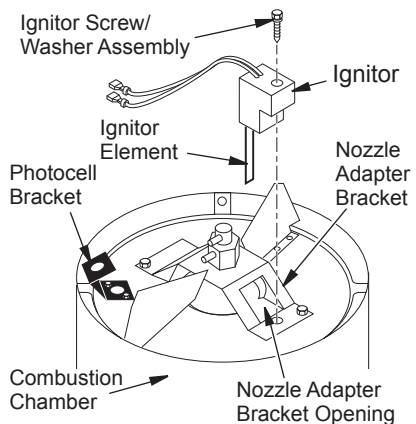

Figure 22 - Ignitor Replacement
6. Remove combustion chamber. Stand combustion chamber on end with nozzle adapter bracket on top (see Figure 22).
11. Route the ignitor wires back down through the hole in the lower shell. Connect wires to the ignition control assembly (see Figure 22).